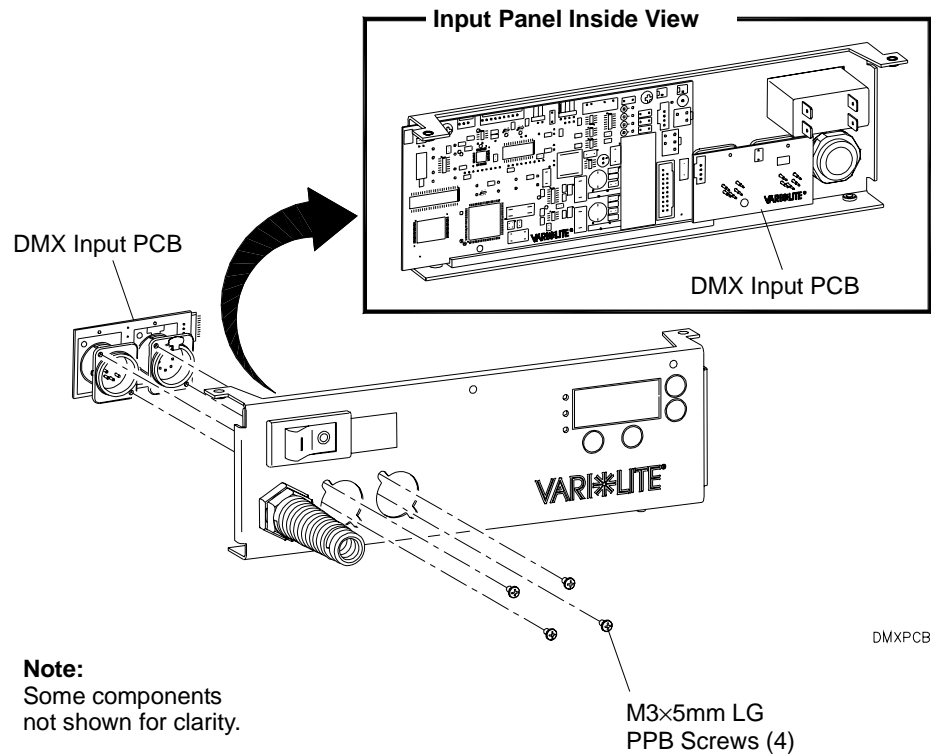

Figure 2-29: DMX Input PCB Assembly Replacement
- Step 4. At front connector panel, remove two M3×5mm LG PPB screws which secure each DMX input connector to panel. **Figure 2-29.**